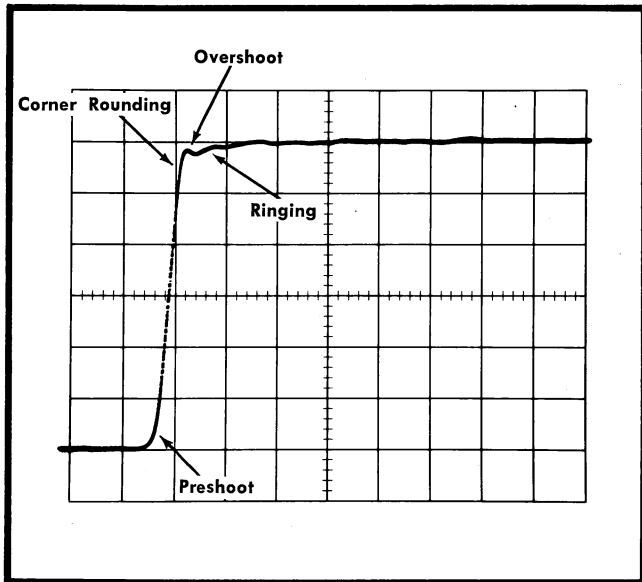

Fig. 5-5. Typical sampling-system display showing leading-edge aberrations.
e. CHECK—Sampling-system display for preshoot 0.06 division or less (see Fig. 5-5).
f. CHECK—Sampling-system display for overshoot 0.24 division or less (see Fig. 5-5).
g. CHECK—Sampling-system display for corner rounding 0.3 division or less (see Fig. 5-5).
h. CHECK—Sampling-system display for ringing 0.24 division or less (see Fig. 5-5).